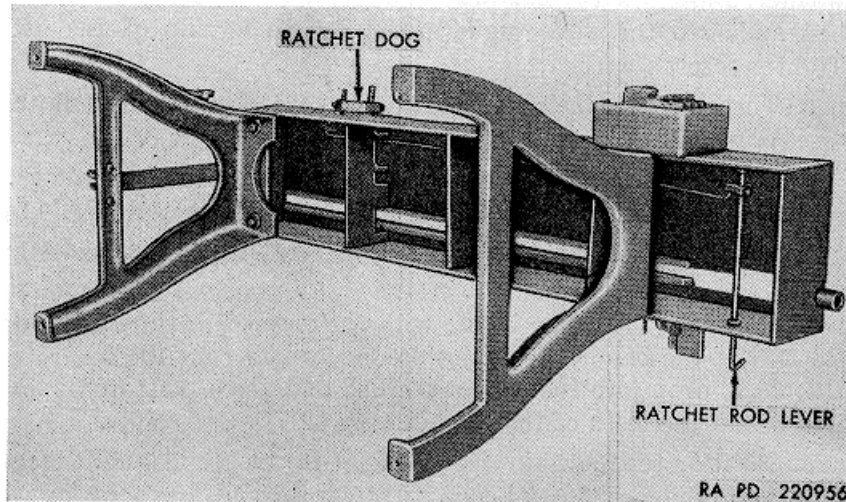
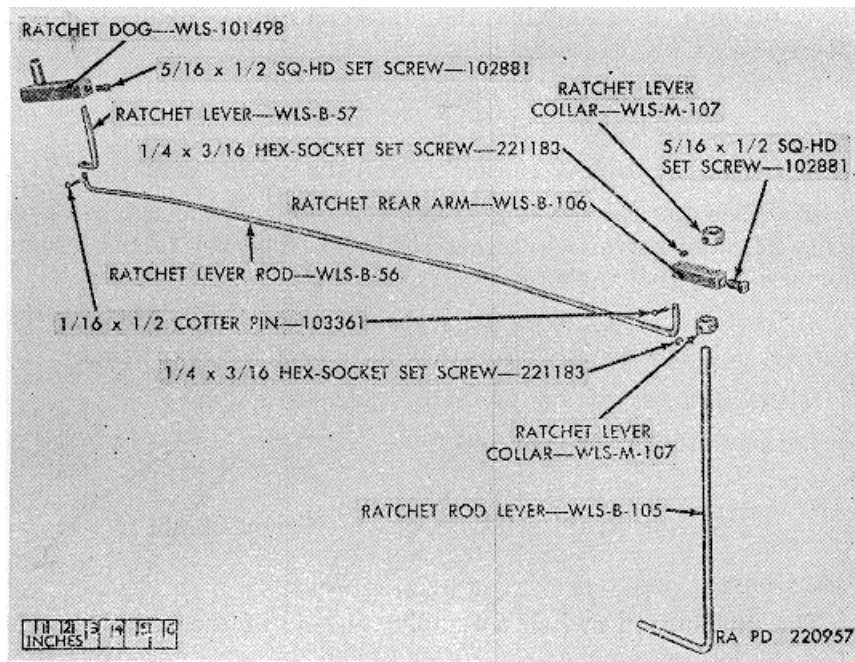

Figure 43. Ratchet dog linkage.
Figure 44. Ratchet dog linkage-exploded view.
The ratchet dog linkage (fig. 43) provides a quick and easy means for locking the saw frame assembly in any position. It can be operated from the front of the bandsaw by manually tripping the ratchet rod lever or from the back of the bandsaw by tripping the ratchet dog.
- d. Remove the squarehead setscrew (fig. 44) in the end of the ratchet dog and remove the ratchet dog.
- e. Remove the squarehead setscrew in the ratchet rear arm (fig. 44) and the two hex-socket setscrews in the ratchet lever collars.
- f. Remove the ratchet rod lever (fig. 44) from the bandsaw and at the same time catch the two collars.
- g. Remove the ratchet lever rod (fig. 44) from the bandsaw.
- a. Remove the two cotter pins (fig. 44) from the ends of the ratchet lever rod.
- a. Place the ratchet lever rod on a bench as shown in figure 44.
- b. Assemble the ratchet rear arm (fig. 44) onto the ratchet lever rod and install the 1/16 x 1/2 cotter pin.
- c. Assemble the ratchet lever (fig. 44) onto the other end of the ratchet lever rod and install the 1/16 x 1/2 cotter pin.
- a. Position the ratchet lever rod in the underside of the bandsaw as in figure 43 and place the ratchet lever (fig. 44) through the hole in the back side of the bed.
- b. Place the ratchet rod lever (fig. 44) in the hole in the front side of the bed and place a ratchet lever collar on the rod from the inside of the bed.
- c. Push the ratchet rod lever in farther, slipping it through the ratchet rear arm, then sliding on the other ratchet lever collar as in figure 43.
position both collars against the inner sides of the bed and install the two 1/4 x 1/2; hex-head setscrews (fig. 44).
g. Place the ratchet dog in the top tooth of the ratchet arm (fig. 24) and move the ratchet rod lever (fig. 43) to the left at about a 45-degree angle.
h. Install the 5/16 x 1/2 squarehead setscrew (fig. 44) in the ratchet dog and the other setscrew in the ratchet rear arm.